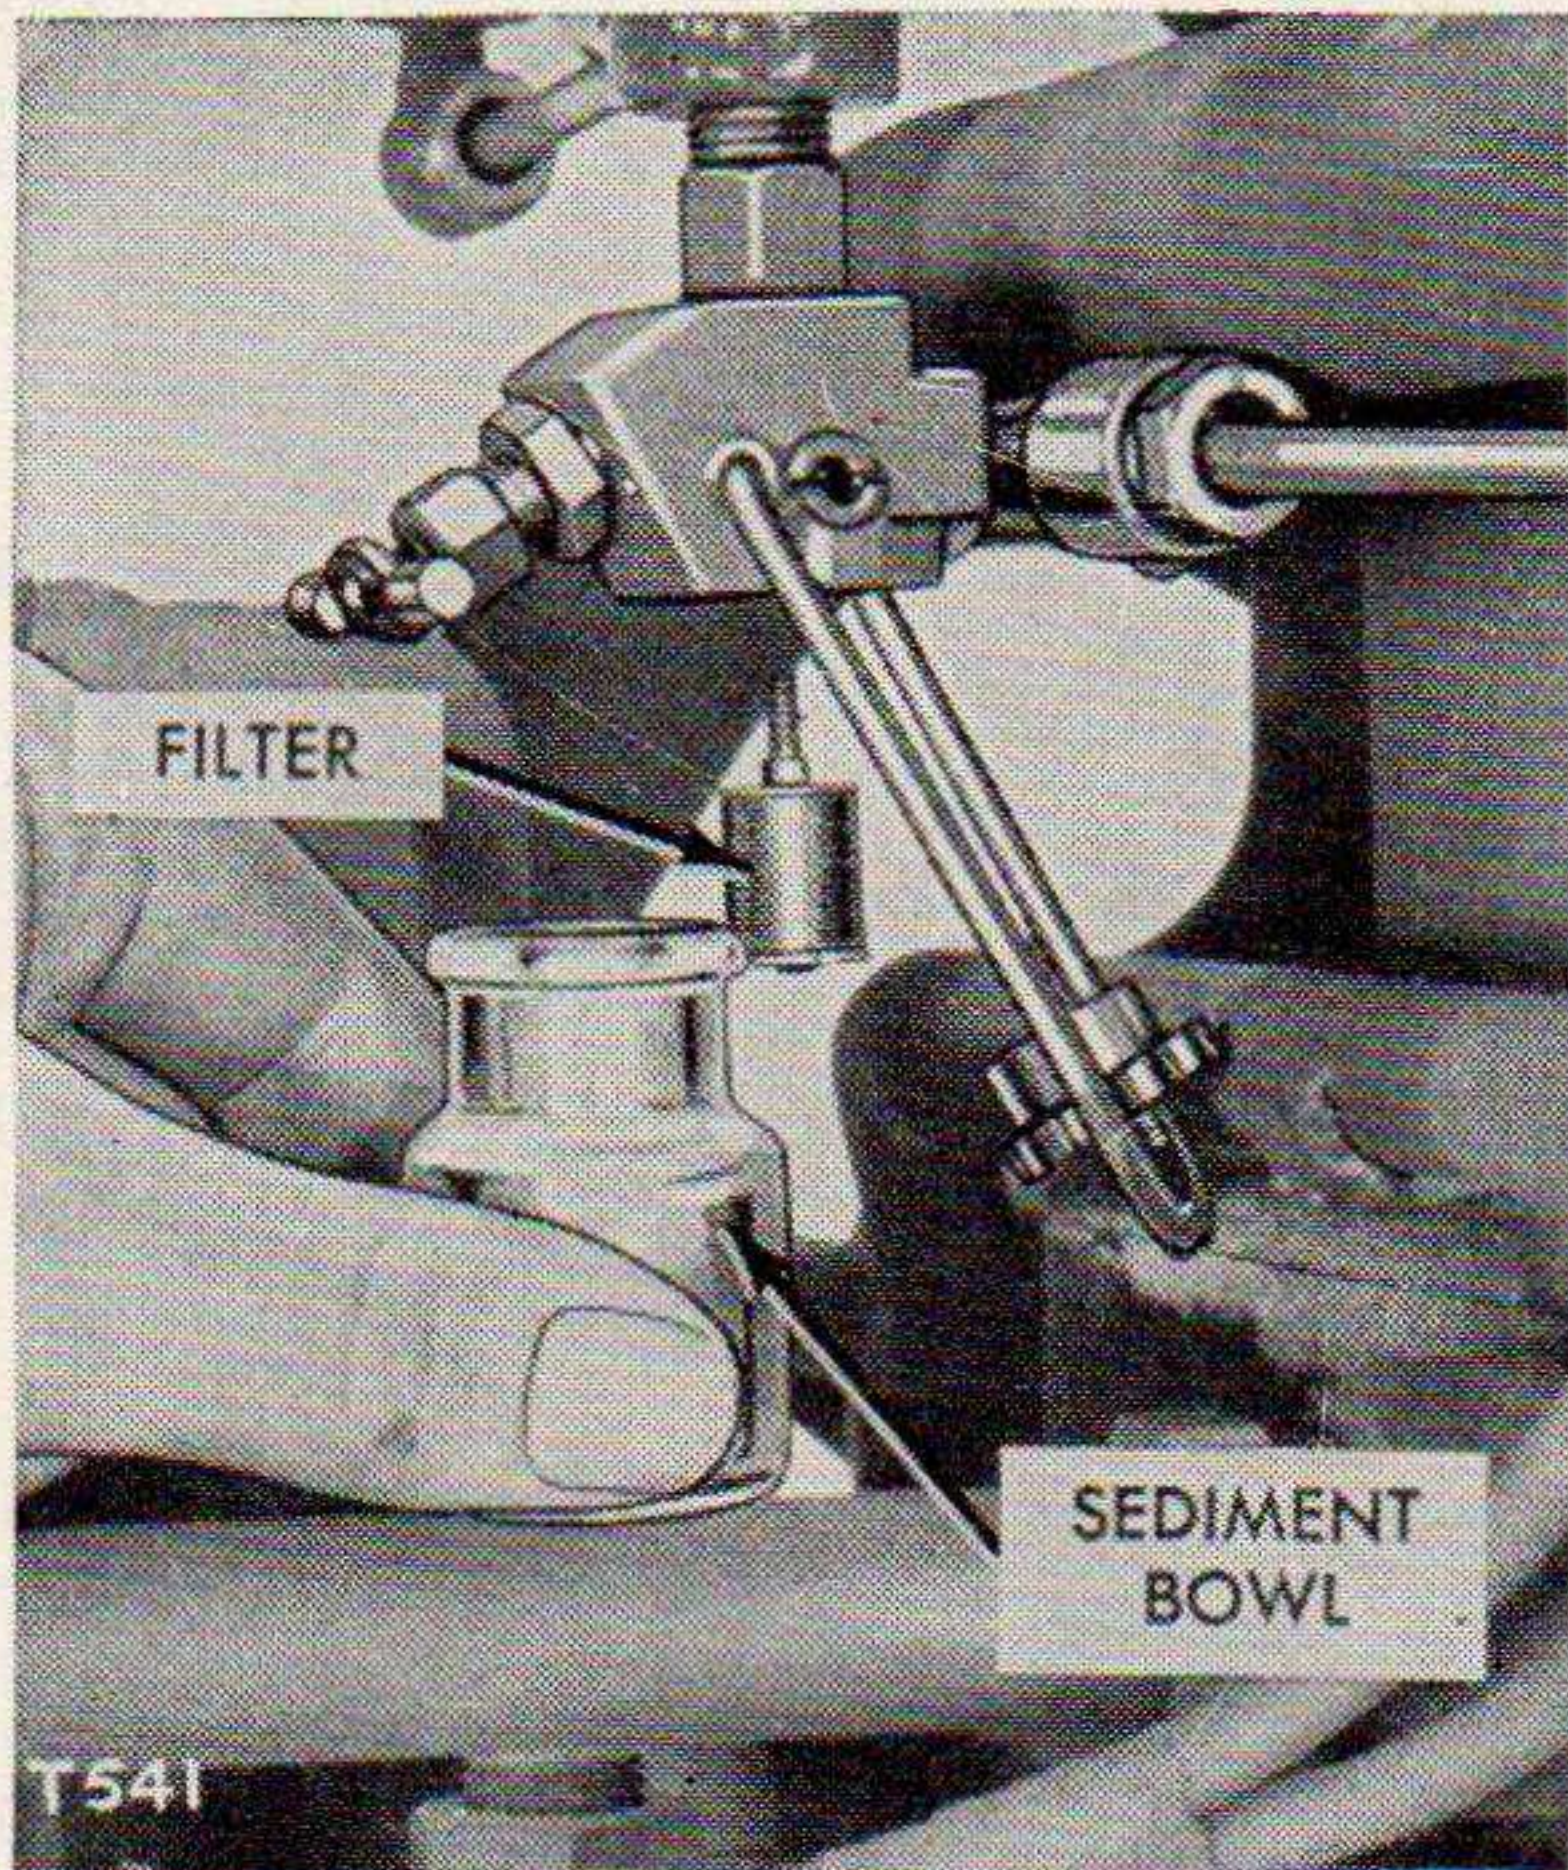

Figure 59. Sediment bowl and filter removed.
*a.* MAINTENANCE. (See fig. 59.)
- (1) *Remove sediment bowl.* Close the valve under the fuel tank and remove the bowl by unscrewing the nut clamping it to the body of the valve.
- (2) *Clean filter.* Unscrew the edge type filter, shake it in dry cleaning solvent and screw it back in place.
- (3) *Replace bowl.* See that the gasket is clean and replace the bowl. Tighten the screw with the fingers until there are no leaks.